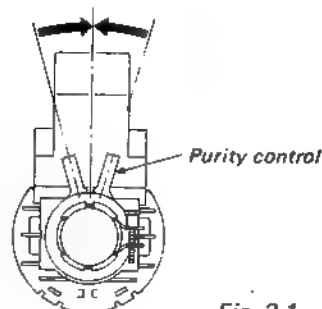
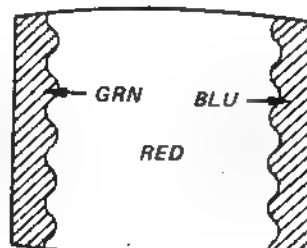

Fig. 3-1.
Fig. 3-2
3. Loosen the deflection yoke mounting screw, and set the purity control to the center as shown in Figure 3-1.
4. Set BKG VR (2) to maximum and set (3) and (5) to minimum.
5. Move the deflection yoke back, and adjust the purity control so that (2) is in the center and (3) and (5) are at the sides, evenly. (Figure 3-2.)
7. Substitute (5), then (3) for (2) in step 4 and check landing.
8. Rotate (3), (5) and (5) once each and check landing.